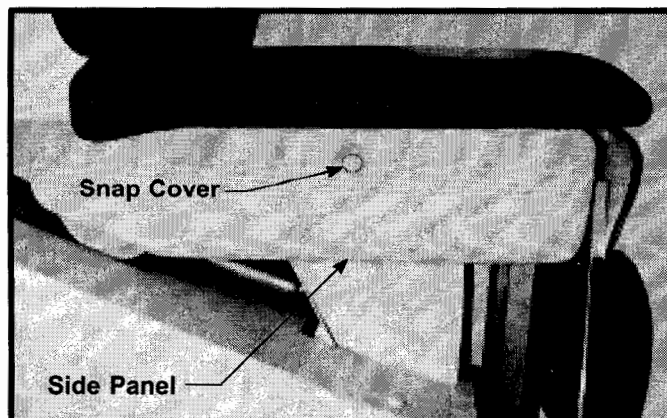

Figure 3-14. Securing Chair Side Panels
Should the Side Panel on the S2700 Maxi Chair Select Select (serial numbers 01125 and before) become loose, Refer to Figure 3-14 and follow the steps below.
3. Using a portable drill, drill a 9/64" hole through the Side Panel and Chair Seat Support Casting approximately in the center of the Side Panel. See Figure 3-14.